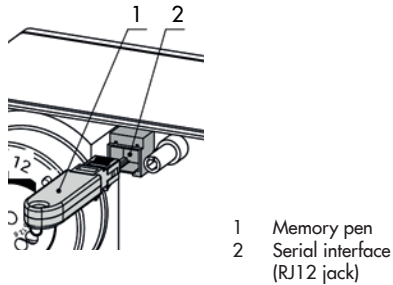

Fig. 8-3: *Connecting actuator and memory pen*
The memory pen is connected to the actuator as shown in Fig. 8-3. Refer to the TROVIS-VIEW Operating Instructions ► EB 6661 on how to transfer data.
1. Plug the memory pen into the serial interface of the actuator (Fig. 8-3).